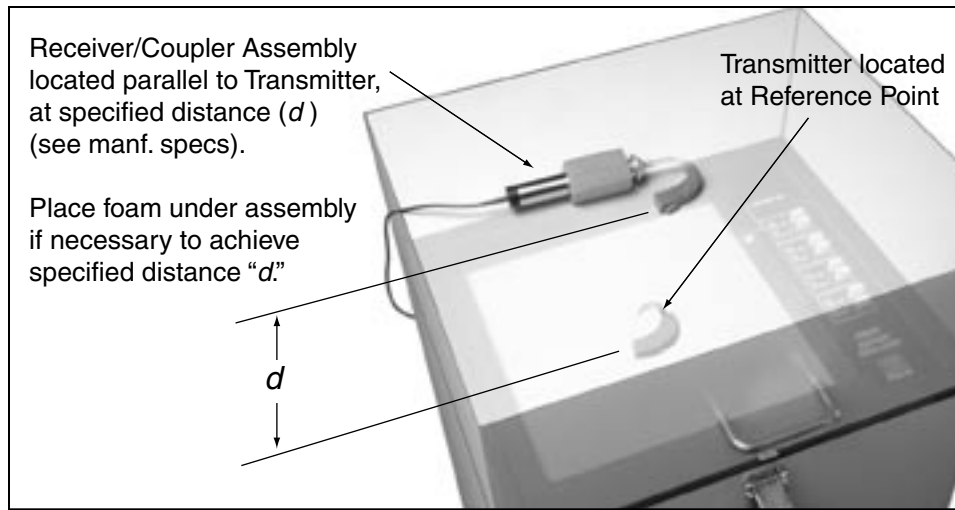

Figure 4.7.1—Testing Wireless CROS Hearing Aids
A CROS (Contralateral Routing of Signal) aid consists of a transmitter and a receiver so that sound received on one side of the head can be transmitted to the other side without a wire connection. You can test these units in the test chamber of the FONIX 6500-CX. (See text below and Figure 4.7.1.)
2. The two sides must be directly parallel as illustrated (See Figure 4.7.1).